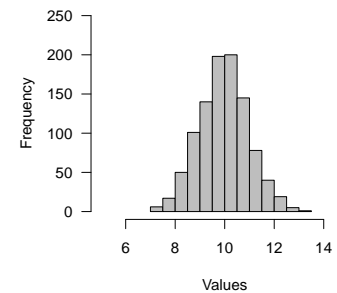

Figure 2: Frequency distribution of population.
The distribution of the data (Figure 2), resembles a normal distribution, which is reassuring since we created it using a random number generator that uses the normal probability distribution.
These data will represent the population (N) and has a mean or μ of 10.02. The values range from 7.2 to 13.2 (Figure 2). From this dataset, we sample 10 numbers randomly.